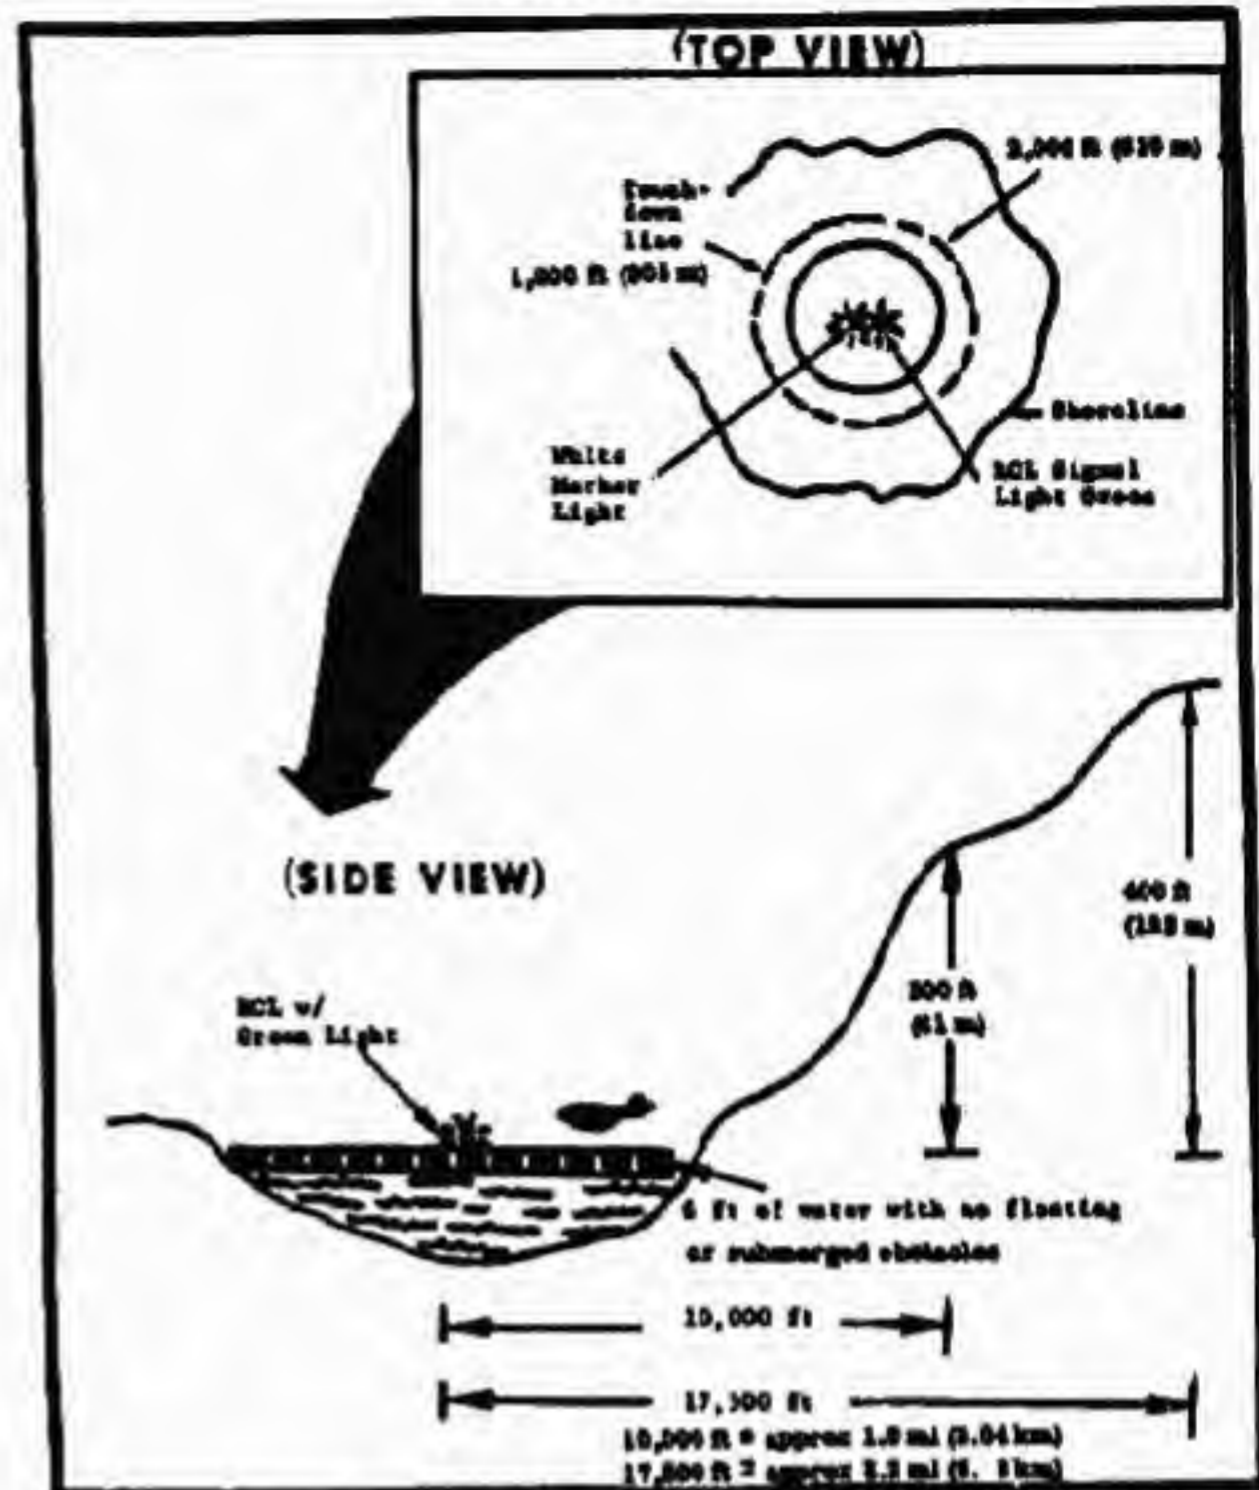

Figure 19. One light water landing zone (night).
(1) Depending upon visibility, lights or panels may be used to mark water LZ's.
(2) The normal method of marking water LZ's is to align three marker stations along the left edge of the landing strip. Station "A" is positioned at the downwind end of the strip and indicates the desired touchdown point. Station "B" marks the last point at which the aircraft can touch down and complete a safe landing. Station "C" is also the location of the RCL and the pickup point. Station "C" marks the upwind extreme of the landing area. At night, stations "A," "B," and "C" are marked by white lights. The RCL signal light is green.
(3) An alternate method is to use a single marker station, marked at night with a steady light in addition to the signal of recognition light. This station is located to allow a clear approach and takeoff in any direction. The pilot is responsible for selecting the landing track and may touchdown on any track 1,000 feet (305 meters) from the marker station. Following pickup, the aircraft taxis back to the 2,000-foot (610 meters) circle in preparation for takeoff. (Figure 19).